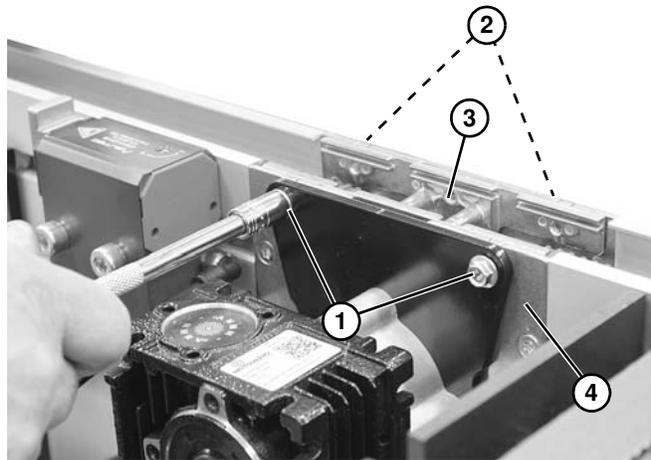

Figure 38
- b. **Drive Side:** Remove hex flange screws (Figure 38, item 1). Press in on hex flange screws (Figure 38, item 2) and lift mid drive cartridge (Figure 38, item 3) from mid drive assembly (Figure 38, item 4).